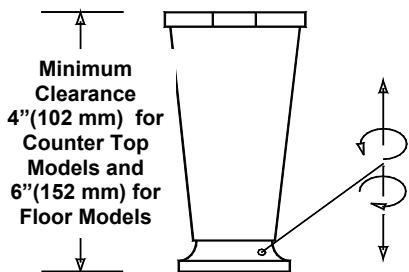

Fig. 1
2. Level the unit by turning the bottom part of each leg clockwise or counterclockwise (Fig. 1). The machine **MUST** be level to operate properly.